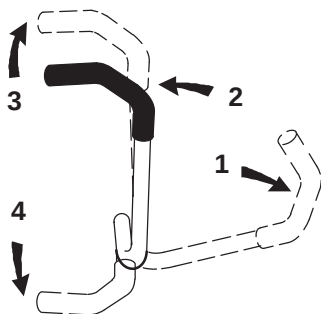

Figure 7
3. To go forward, slowly push the motion control levers forward (Fig. 7).
To go straight, apply equal pressure to both motion control levers (Fig. 7).
To turn, move the motion control lever toward neutral in the direction you want to turn (Fig. 7).
2. To go backward, slowly pull the motion control levers rearward (Fig. 7).
To turn, release pressure on the motion control lever toward the direction you want to turn (Fig. 7).